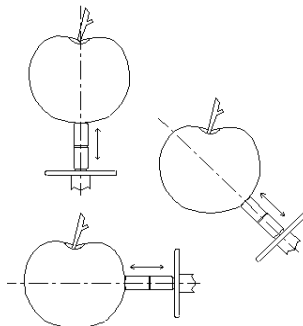

Fig. 2
- 2) Pressure head and fruits should be vertical surface. When make the measurement, the Sensing Head along the tip should be on a line with measuring fruits ( ref. Fig. 2 )